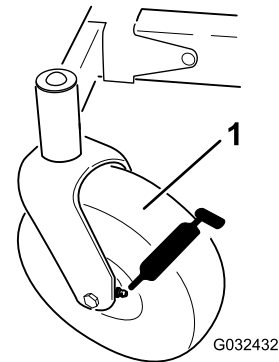

Figure 35
3. Clean the grease fittings (Figure 35) with a rag.
4. Connect a grease gun to each fitting (Figure 35).